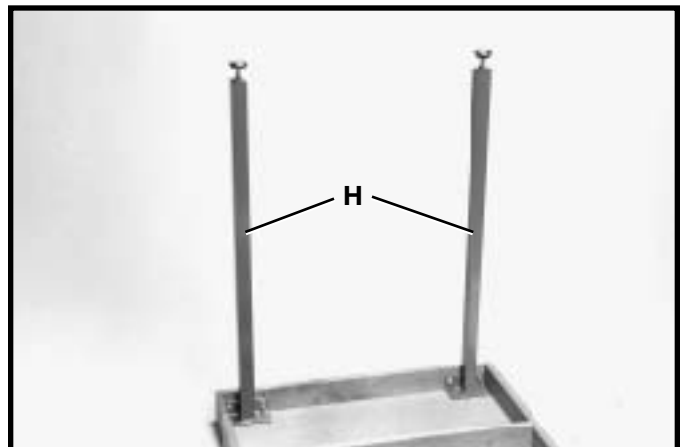

Fig. 18
4. Figure 18 illustrates the two legs (H) assembled to the bottom of the table.